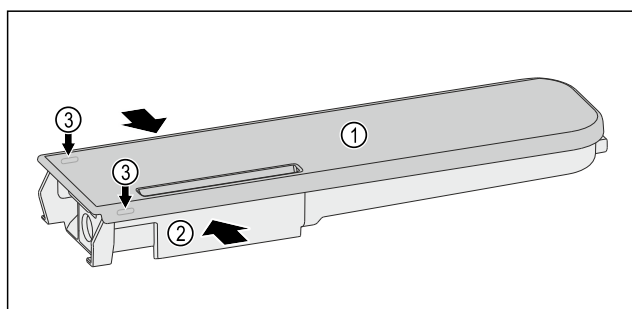

Fig. 233
- Push the water tanks Fig. 233 (2) together, leverage the cover Fig. 233 (1) carefully over the latching tabs Fig. 233 (3) and lift it up.
- Move the cover Fig. 233 (1) slightly forwards and back, and remove to the top.